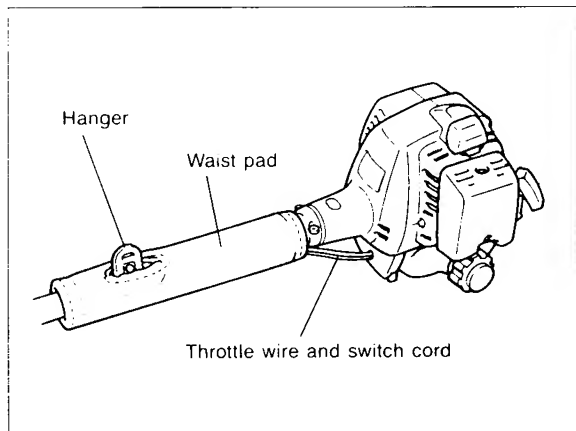

Fig. 3
5. Wrap the waist pad around the drive shaft so that the hanger will protrude through the slit in the waist pad and the throttle wire and the cords will also be wrapped under the waist pad. (Fig. 3)